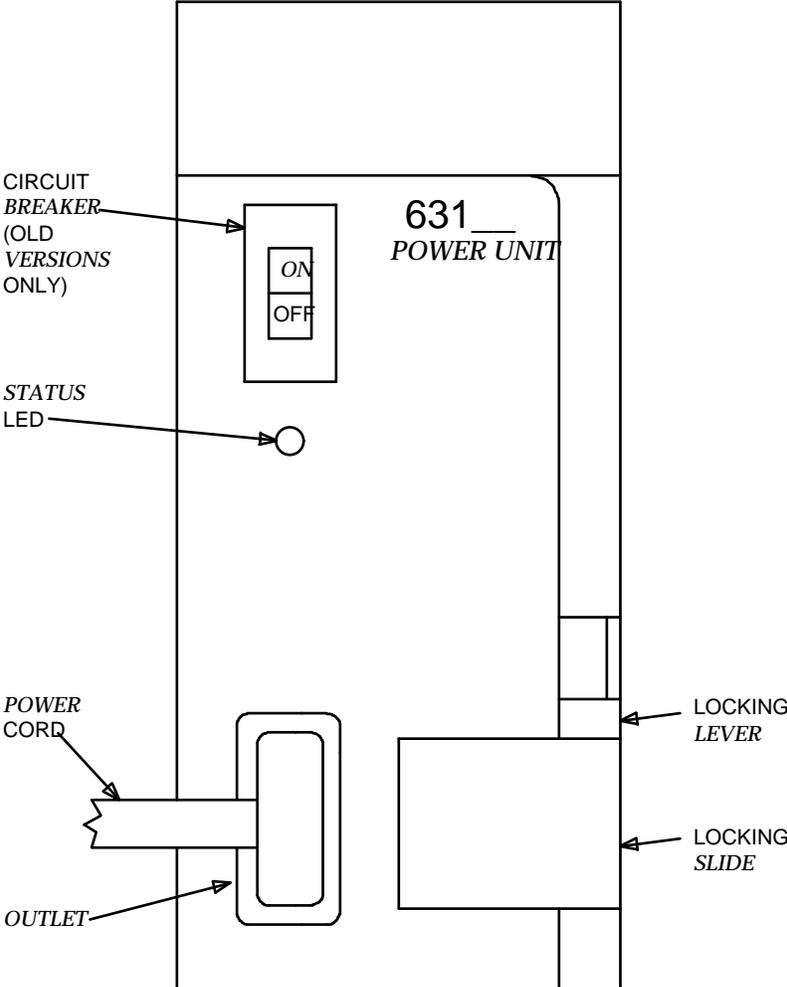

FIGURE 7-22. 631-Type Power Unit
- a. See Figure 7-22. Operate circuit breaker on power unit to be added to OFF position.
- c. Move locking slide on power unit to its leftmost position (see Figure 7-22) and open lever.
- f. Move locking slide on power unit to its rightmost position (see Figure 7-22).